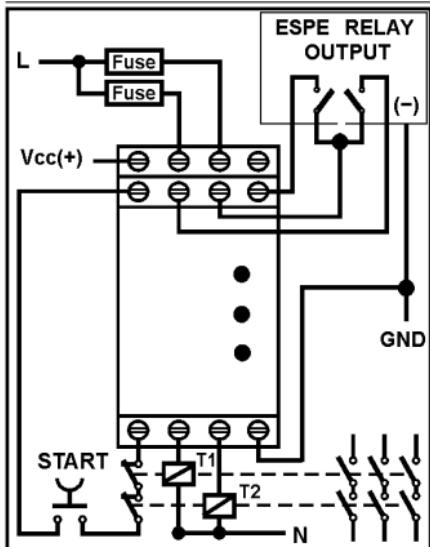

Fig. 8: ESPE: 2 uscite a relè a 2 fili /
- *ESPE with two relay two-wires outputs*: connect one wire of each output channel to the S22 terminal and the other outputs to the S12 and S21 terminal, leaving S11 not connected (fig. 8, max. Safety cat. 4).